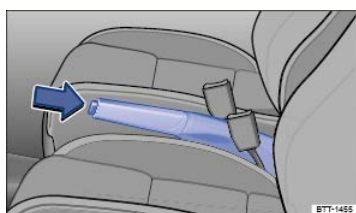

Fig. 128 Between the front seats: Parking brake.
- Pull the lever up slightly and press the release button ⇒ Fig. 128 (arrow).